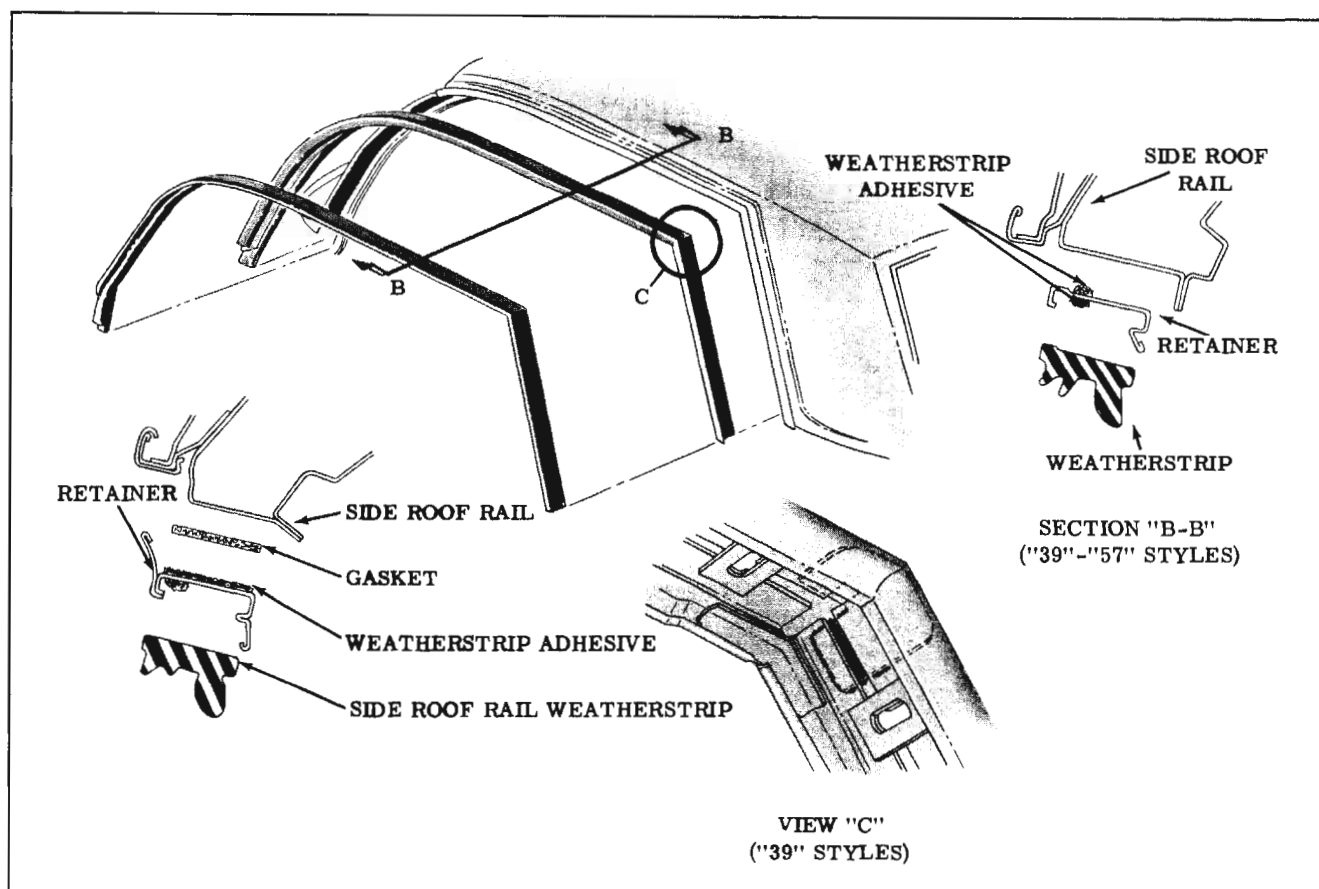

Fig. 16-63 Side Roof Rail Weatherstrip ("39" and "57" Styles)
2. Apply a continuous bead (approximately 3/16" diameter) of weatherstrip adhesive along entire outboard surface of side roof rail weatherstrip retainer. (Section "B-B", Fig. 16-63)